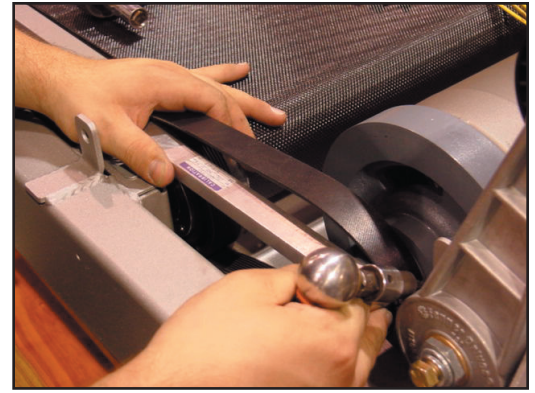

Figure 15
- 4.1 Use a straight-edged ruler placed on the outside of the front roller pulley to align the outside face of the motor drive pulley to within 0.020 inches (0.5mm) of the straight-edged ruler (see Figure 15).